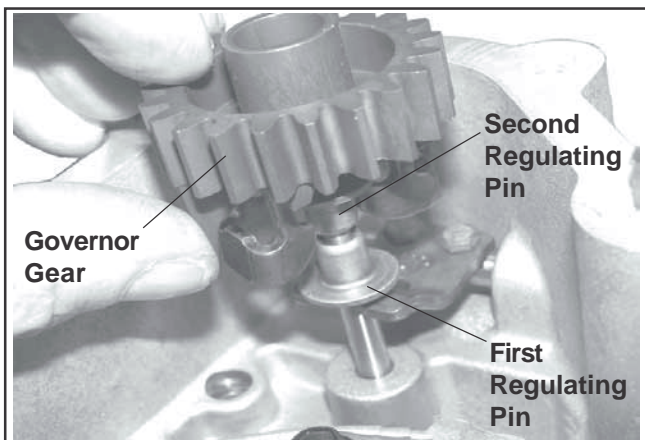

Figure 10-13. Regulating Pins and Governor Gear.
5. Install the first regulating pin with the head down so it will contact the yoke. Install the governor gear with the second regulating pin and the flyweight assembly in/down onto the governor shaft until it locks into position. Apply a small amount of grease to the locking tab thrust washer and install on top of the governor gear so the tang is facing **up** in the 6 o'clock position. See Figures 10-13, 10-14, and 10-15.